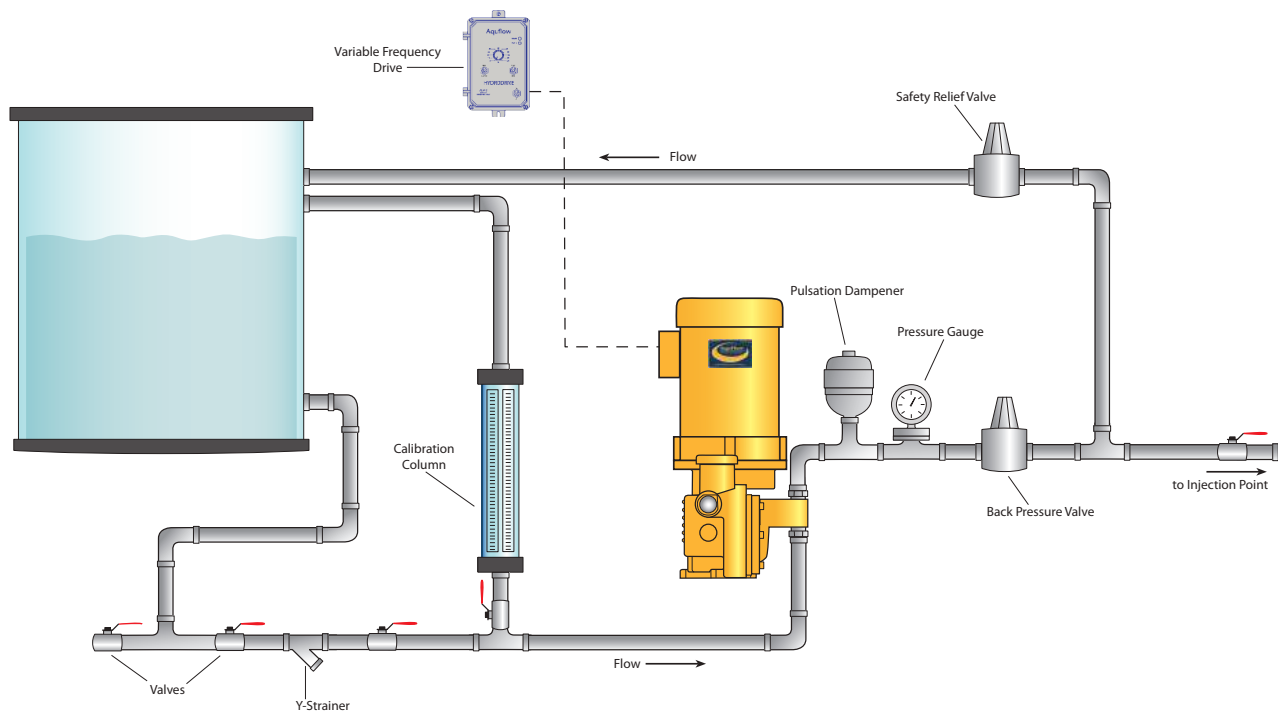

Figure 3. Typical Metering Pump Installation
6. Shut-off valves and unions installed in the suction and discharge pipelines will facilitate pump servicing. Please refer to Figure 3 for a typical installation.
The internal relief valve is designed only to protect the pump and drive components in the event the piping system is restricted or blocked while the pump is in operation. If there are other sources of pressure or hydraulically isolated sections of piping in the system, an external safety relief valve must be installed in the pump discharge line as close to the pump as possible, and BEFORE any isolation valve. The safety relief valve should be piped back to the suction tank or safety drain as shown in Figure 3.
2. Check to be certain that accessory components and fittings have been installed in the proper orientation and sequence as shown in Figure 3.
Pump calibration can be accomplished by measuring the decrease in liquid level pumped from a calibration column installed in the suction line as shown in Figure 3 on page 9. Follow the calibration instructions provided by the cylinder manufacturer. An alternate method of calibration for non-hazardous applications is to collect and measure the fluid metered from the pump discharge port into a graduated cylinder or tank.